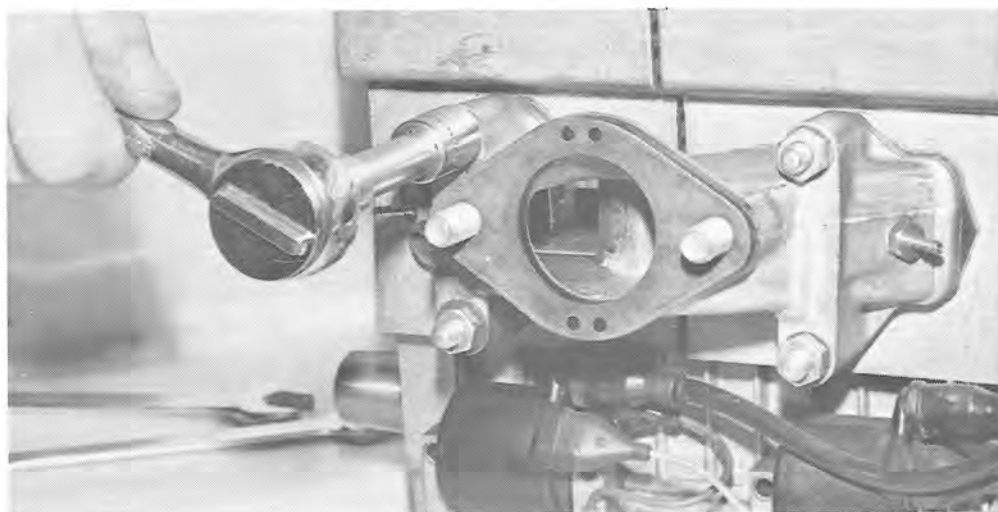

FIG. 1-37
Temporarily install the intake manifold without gaskets and tighten manifold nuts to sixteen (16) to eighteen (18) foot pounds. See Fig. 1-37. Cylinder base nuts may now be torqued to sixteen (16) to eighteen (18) foot pounds as outlined on specification page. The proper piston height can be measured at the top of the cylinder. The edge of the crown of the piston must not protrude above the top of the cylinder with the piston in the top dead center position. If the piston does protrude above the cylinder, a thicker base gasket must be used. See specification page for dimensions and color coding. It is important that only one cylinder at a time be adjusted or the crankcase will separate and lose it's seal.